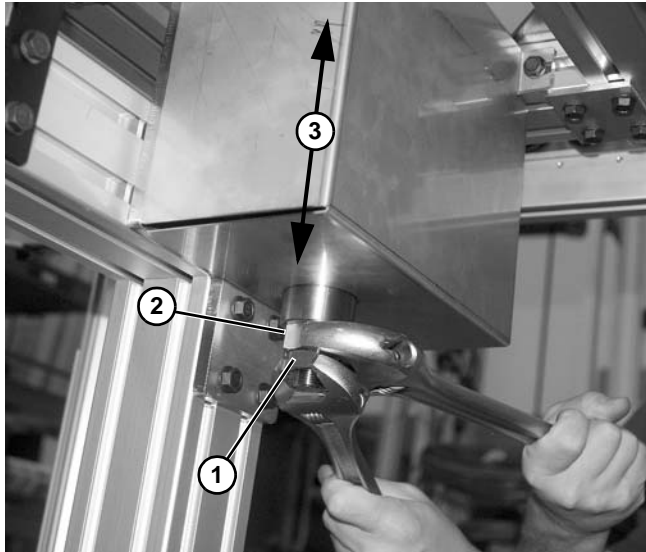

Figure 79
2. To adjust stroke, loosen jam nut (**Figure 79, item 1**) from large nut (**Figure 79, item 2**) on the bottom of cylinder shaft.
3. Turn large nut (**Figure 79, item 2**) clockwise or counterclockwise to raise or lower (**Figure 79, item 3**) pallet assembly as needed.